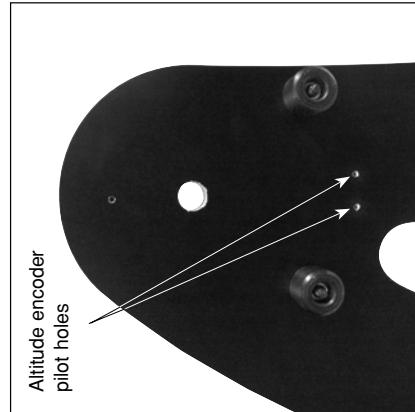

Figure 2. The two pilot holes used to mount the altitude encoder assembly are located on the interior surface of the right side panel of the base.
- Install the altitude encoder assembly onto the base's right side panel. This is the side of the base opposite the side with the IntelliScope Computerized Controller Port. Below the 5/8" through-hole in the panel, there are two pre-drilled starter holes in the inward-facing surface (Figure 2). Take two of the supplied wood screws and push them through the two slotted holes in the bottom of the altitude encoder's computer board. The screw heads should be on the same side as the altitude encoder's modular jack.